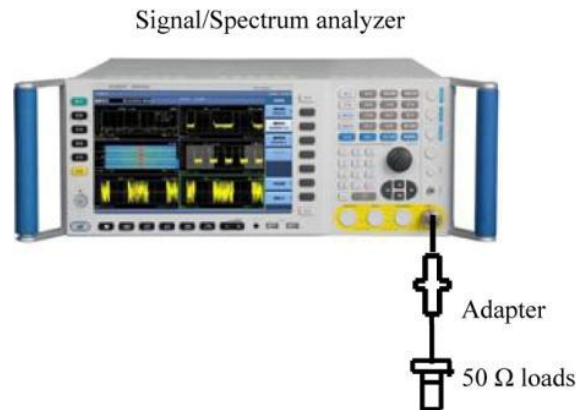

Fig. 8.14 Schematic diagram of display average noise level test
- 1) Connect the 50 Ω load and the adapter to the input interface of the 4051 analyzer as shown in Fig. 8.14.
- 1) Connect the instrument as shown in Fig. 8.14. Reset the 4051 analyzer and connect 50 matcher at the signal input 50 interface.